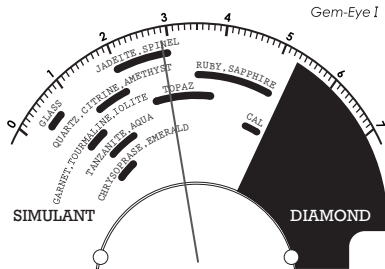

Fig. 2.3
- d. An example of reading the result on the meter is given **(Fig. 2.3)**.